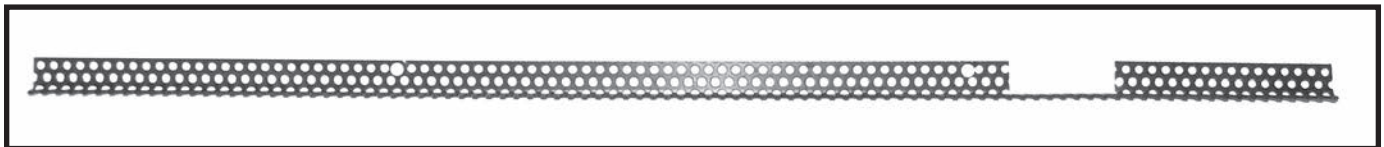
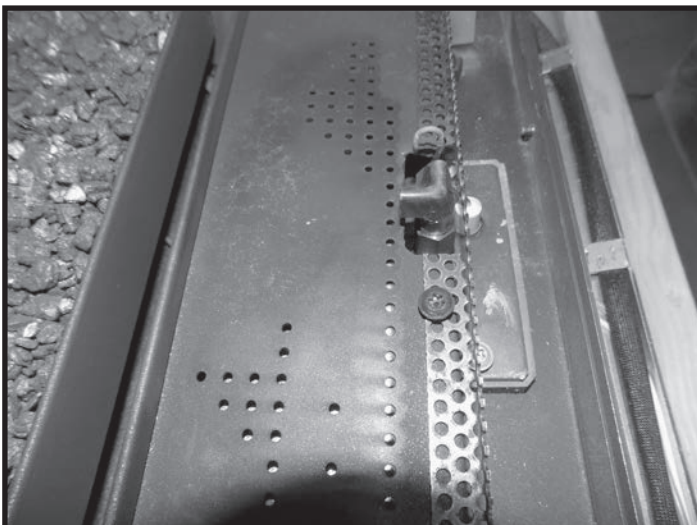

Figure 68: Front mesh guard.
Figure 69: Front mesh guard in place.
4. Place the front mesh guard (Figure 68) along the front edge of the front burner. Secure with supplied screws. Fit the guards' gap around the pilot assembly (Figure 69).